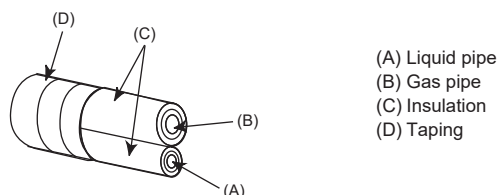
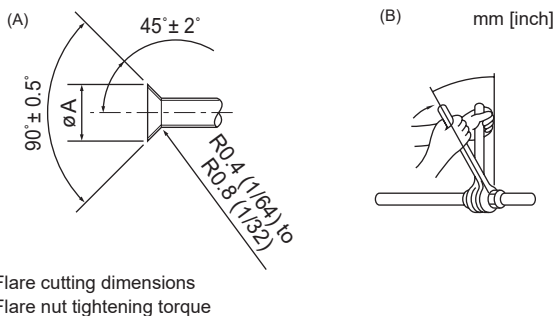

Fig. 4-1
Fig. 4-2
(A) (Fig. 4-1)
(B) (Fig. 4-1)
4.2. Connecting pipes (Fig. 4-1, Fig. 4-2)
When commercially available copper pipes are used, insulate both the liquid and gas pipes separately with commercially available insulation materials (heat-resistant to 100°C, 212°F or more, thickness of 12 mm, 1/2 inch or more). (Fig. 4-1)
- The indoor parts of the drain pipe should be wrapped with polyethylene foam insulation materials (specific gravity of 0.03, thickness of 9 mm, 23/64 inch or more). [Fig. 4-2]
- Apply thin layer of refrigerant oil to pipe and joint seating surface before tightening flare nut. (A)
- Use two wrenches to tighten piping connections. (B)
- Apply refrigerating machine oil over the entire flare seat surface. (C)
- Use the flare nuts for the following pipe size. (D)